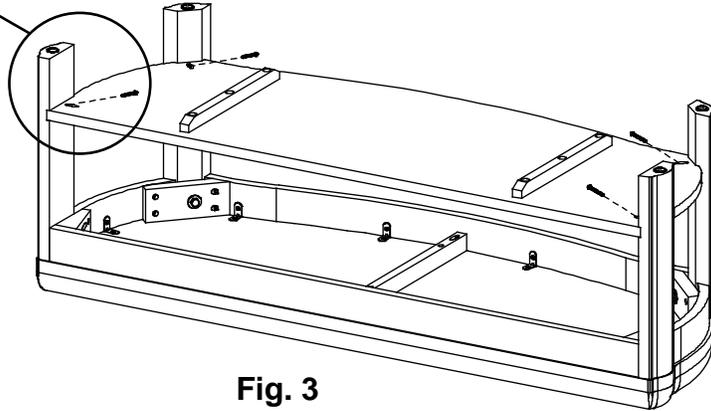

Fig. 3
- Using the pocket holes as guides, secure the Shelf Assembly (C) to the Legs with four #8 x 1-1/4" Pan Head Screws (I). See Figures 3 and 3a.